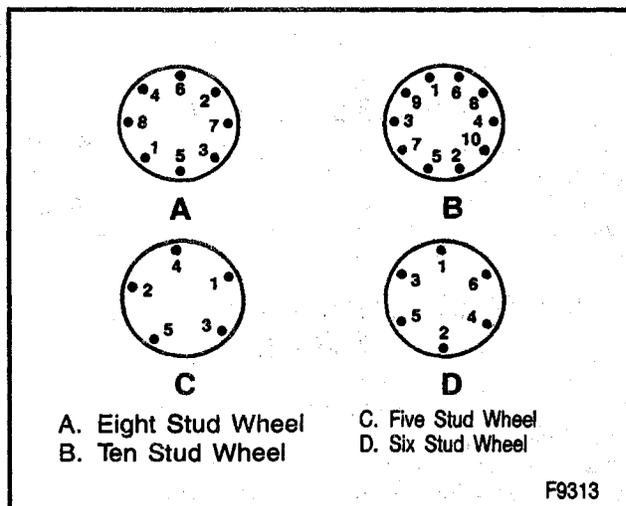

Figure 7—Wheel Nut Tightening Sequence
- Tighten evenly and alternately to avoid excessive runout (Figure 7).